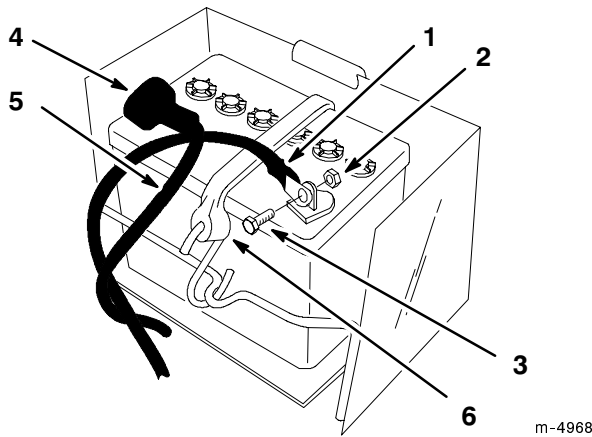

Figure 38
3. Disconnect the negative (black) ground cable from the battery post (Fig. 38).
4. Lift the red rubber cover up on the positive cable. Disconnect the positive cable (red cover) from the battery post (Fig. 38).
5. Remove the battery hold down strap (Fig. 38). Remove battery from the tractor.
1. Install the battery into the tractor (Fig. 38).
2. Secure battery with hold down strap (Fig. 38).
3. Using the bolt and nut, connect the positive (red cover) cable to the positive (+) battery post (Fig. 38). Slide the rubber cover over the battery post.
4. Using the bolt and nut, connect the negative (black) cable to the negative (-) battery post (Fig. 38).